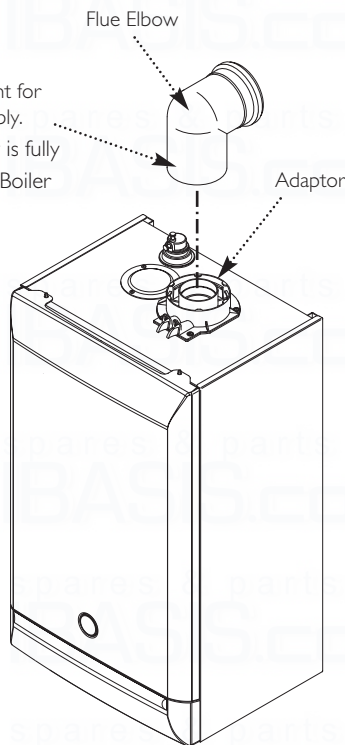

Fig. 39
3. Locate the flue elbow on the adaptor at the top of the boiler. Set the elbow to the required orientation (Fig. 39).